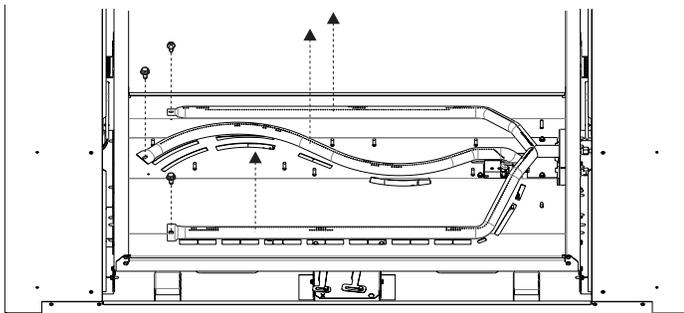

Figure 2
3. Remove middle and outer burners by removing screws on left and pulling out towards left side. **See Figure 2.**